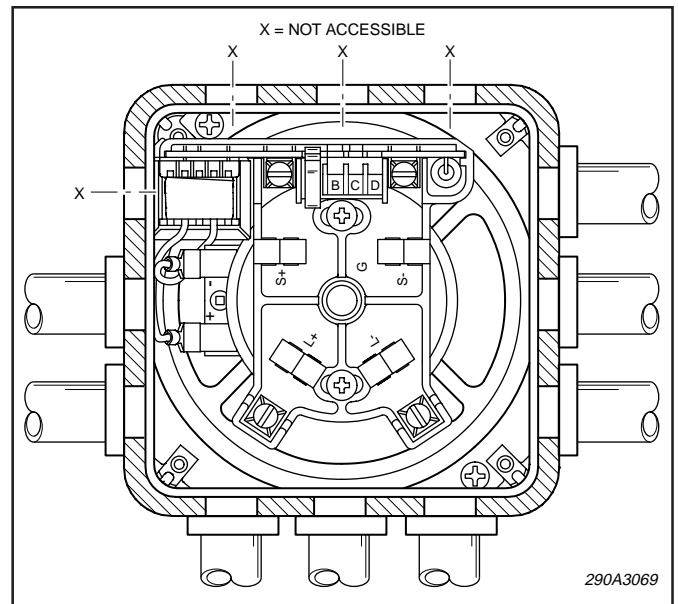

Figure 5. 4 x 4 Electrical Box Conduit Entryways for SPL Grill Speakers.
2. Mounting (see figures 5 and 6).
Placement of the Model SPL grill model within a standard 4 x 4 electrical box requires positioning the rear of the speaker correctly with respect to conduit entryways (see figure 5). Four entryways into the 4 x 4 box cannot be utilized due to the speaker's rear geometry. Be sure to note the site conduit layout prior to grill speaker installation.